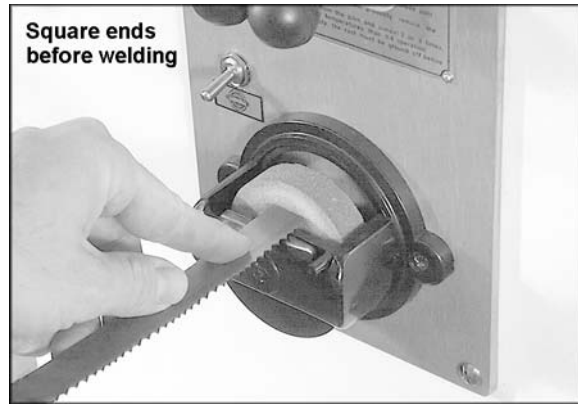

Figure 17
**IMPORTANT:** If a blade has been cut by using snips, the ends of the blade must be ground square before welding them together, as shown in Figure 17.